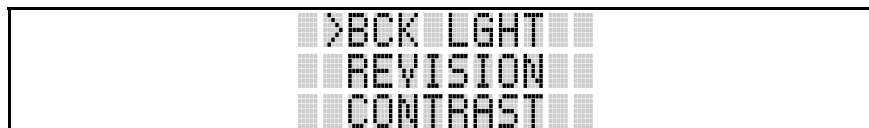

Figure 15: Backlight Menu Item
2. PRESS:  or  until the display shows (see Figure 15):